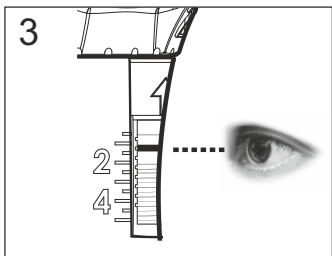

Рисунок 3 / Figure 3
When setting the torque values, hold the dynamometric handle (4) so that the scale of the dynamometric mechanism (3) is at eye level (Figure 3).